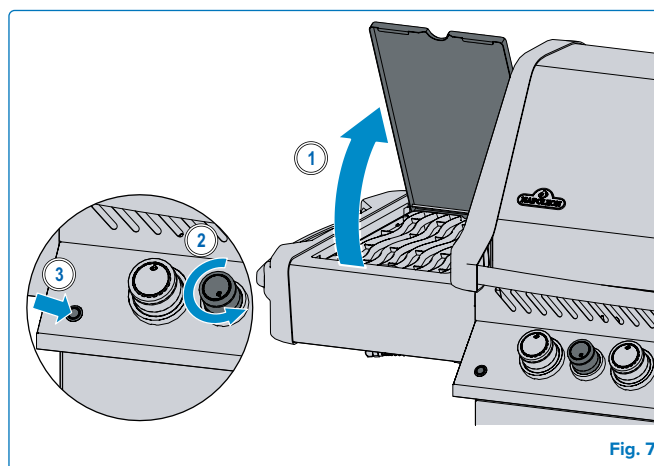

Fig. 7
4. If the burner will not ignite – turn burner control knob clockwise to the OFF position. Wait 5 minutes. Repeat step 2 and 3. **(Fig. 7).**